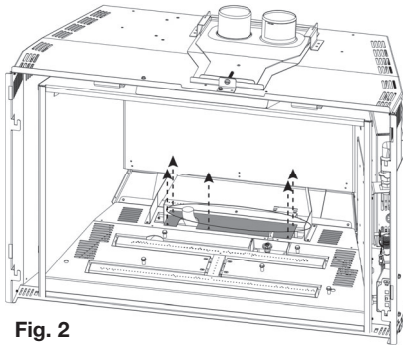

Fig. 2
- 3. Remove the 5 screws securing the cover plate in place. Slide the cover plate back and out (Fig. 2).